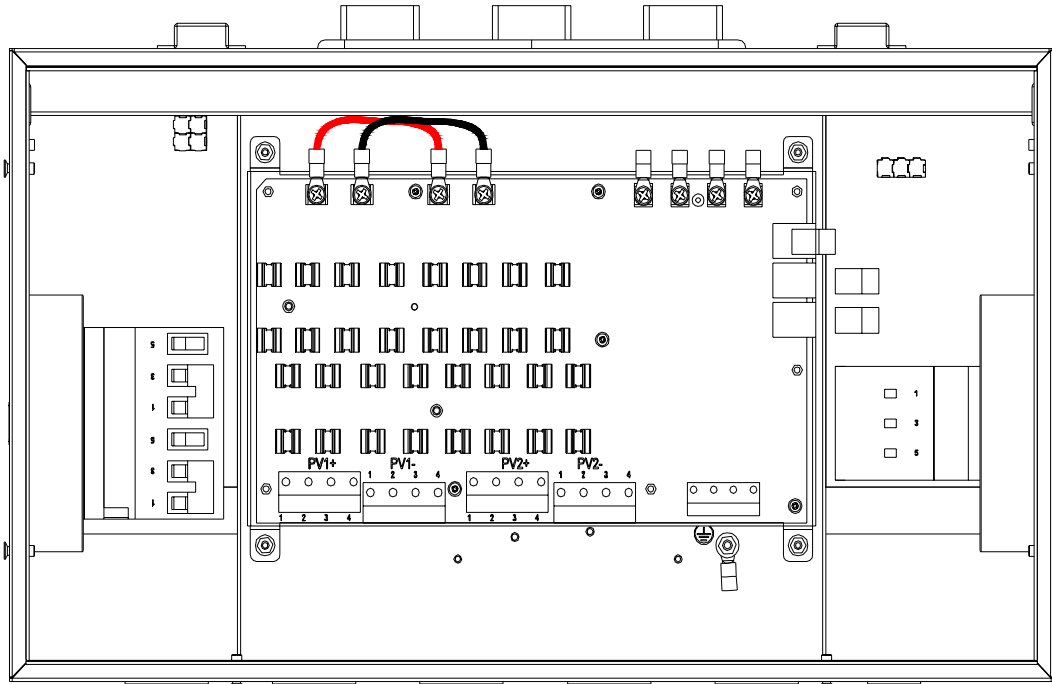

Figure 3-13 Diagram of wire connection in the Wiring box for inverter with 1 MPPT working alone
- (e) For the inverter with 1 MPPT working alone, connect J1 (IN1+) with J3 (IN2+) wire socket (in the Wiring box) through the red wire in the accessory kit; Connect J2 (IN1-) with J4 (IN2-) wire socket through the black wire in the accessory kit, as shown in Figure 3-13: